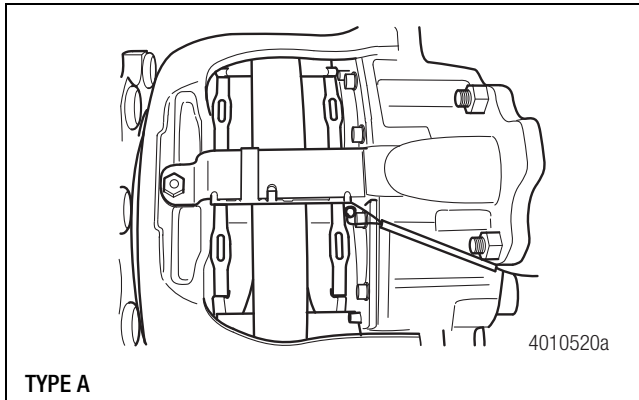
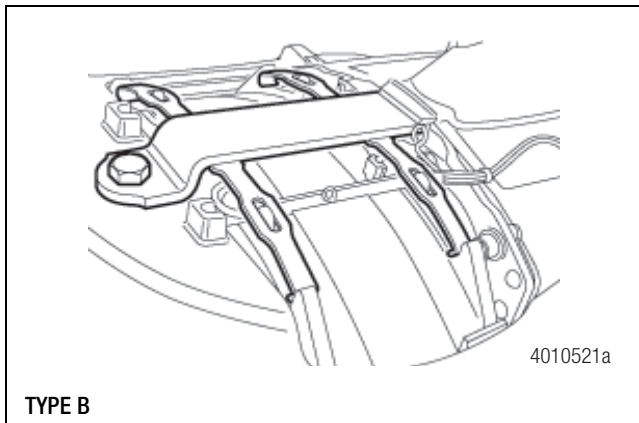
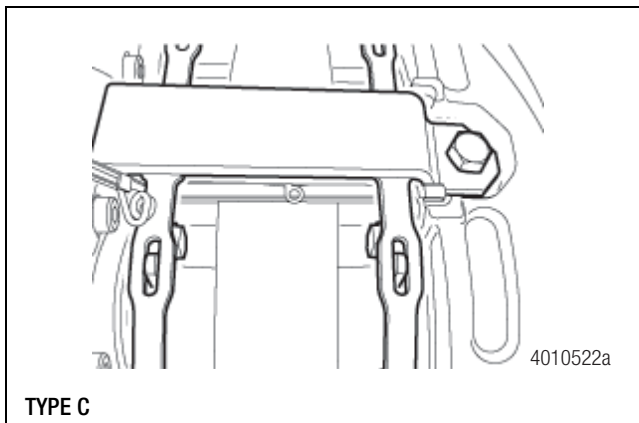

Figure 4.20
Figure 4.21
Figure 4.22
5. If necessary, install the PWWI using one of the following procedures. The EX225 air disc brake can incorporate alternative PWWI arrangements to monitor pad wear. Refer to Figure 4.20 for Type A, Figure 4.21 for Type B and Figure 4.22 for Type C.